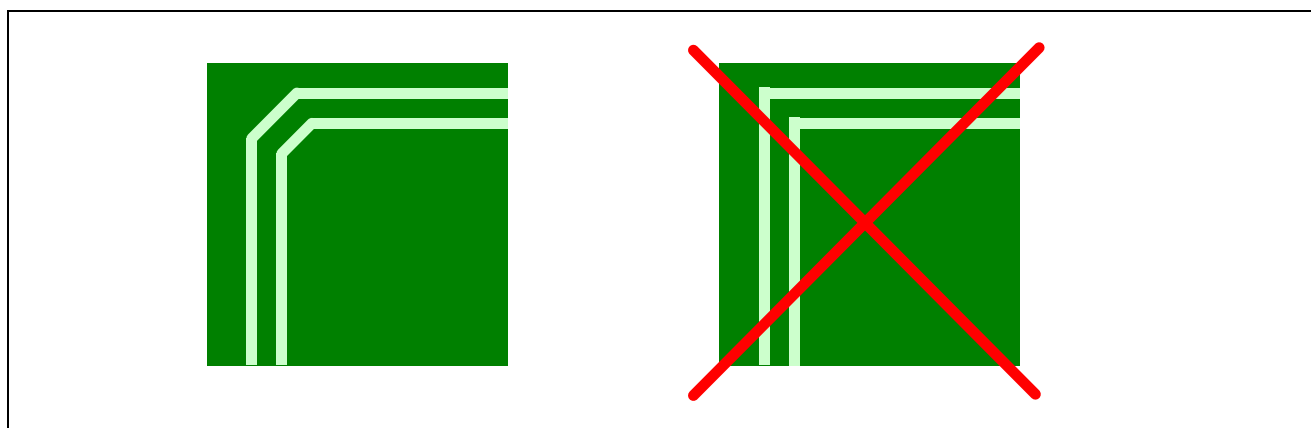

Figure 6.7 Example of Wiring for Differential Signals (2)
- Bends in lines should be at angles of at least 135 degrees. (Figure 6.7)